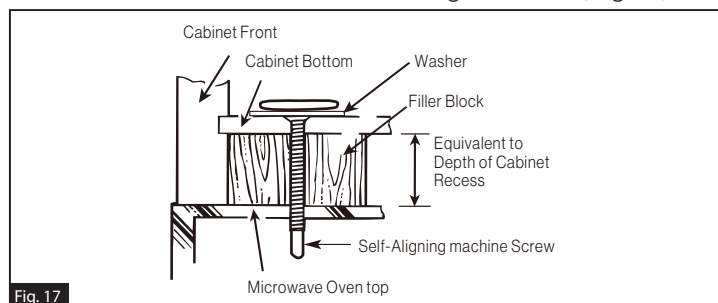

Fig. 17
3. The Filler Block is only used for recessed cabinet and front overhang cabinet (see the type of the cabinet on page 4 and page 5), you should place the Filler Block to the cabinet bottom before installing the oven. (Fig. 17)